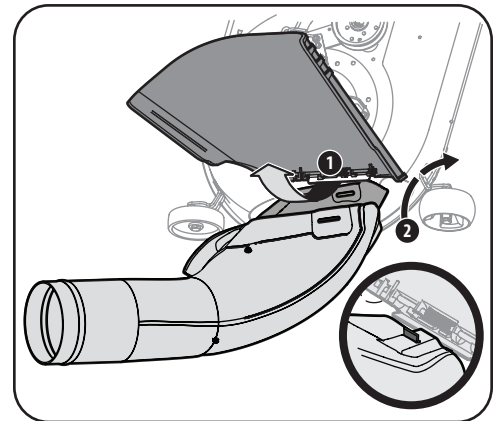

Figure 4-13
4. Secure the chute elbow to the deck by aligning the tab slot in the boot, and the tab located on the mower deck as shown in Figure 4-13.
5. With the tractor's discharge chute raised up and held open (1), install the chute elbow shown in Figure 4-13.